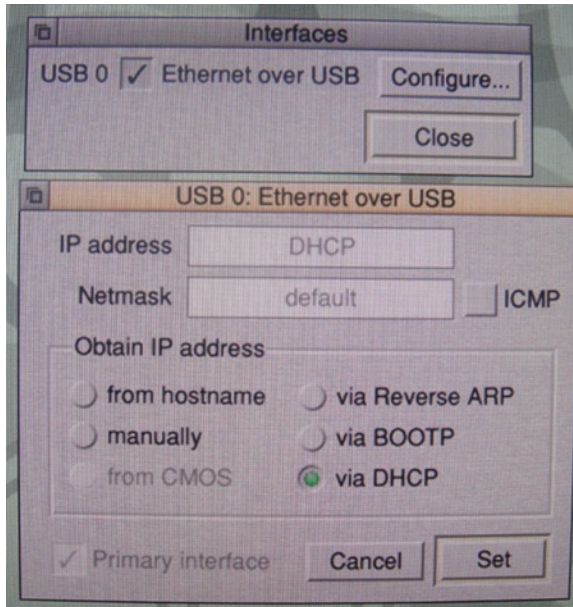

Figure 11-10. The IP configuration window and the Interfaces window
5. Click the Configure button next to this and you can now configure your IP settings. In Figure 11-10 you can see I am using DHCP for the network settings.